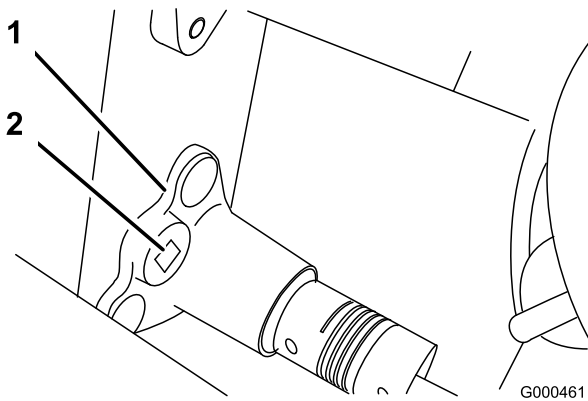

Figure 37
B. Using a 3/8 inch drive torque wrench, rotate the bearing housing with 35-40 in.-lb. of torque to set belt tension (Figure 37).